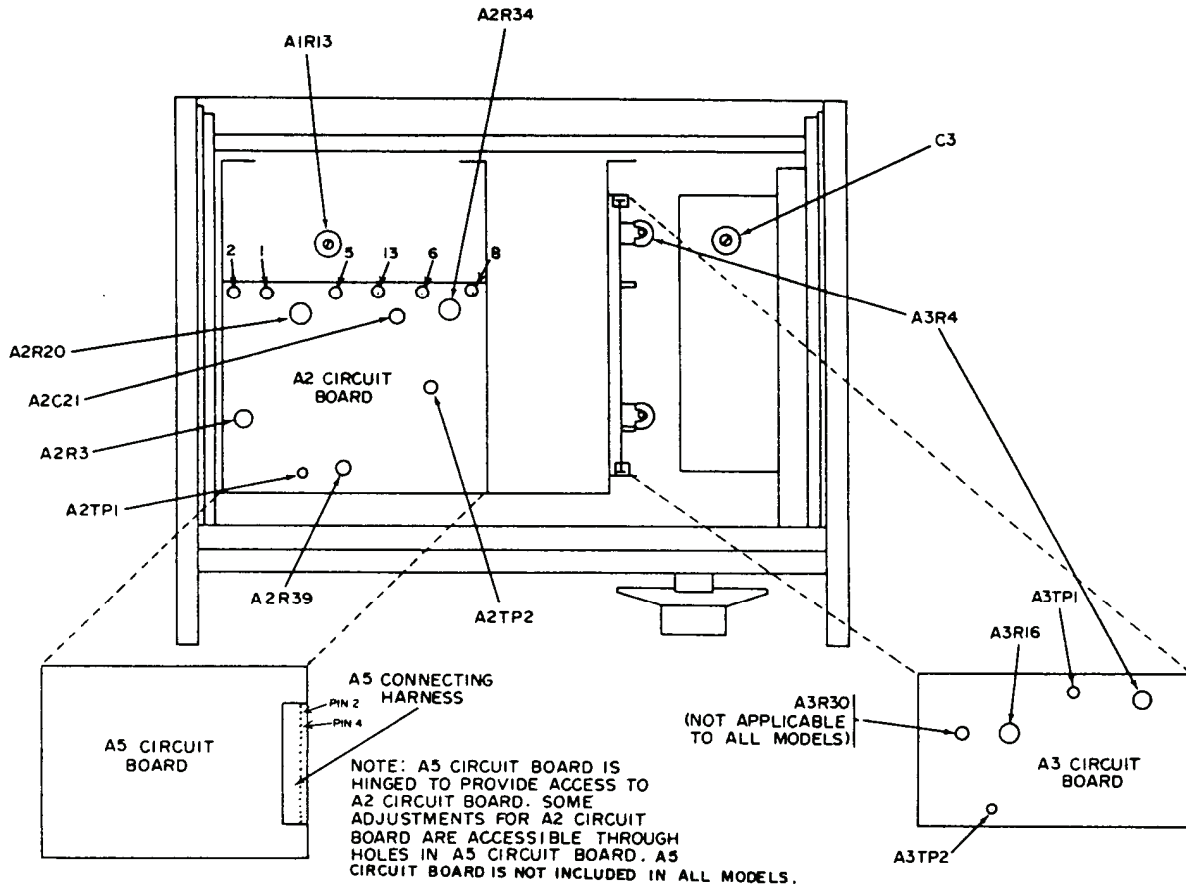
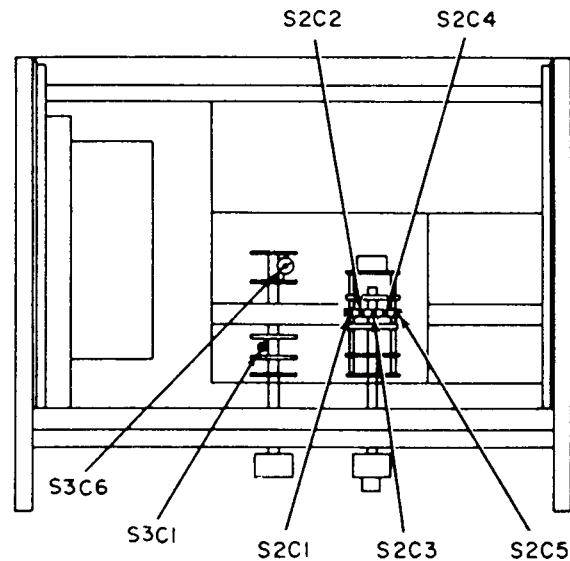

Figure 1. Distortion analyzer - top view.
Figure 2. Distortion analyzer - bottom view.
- (1) Adjust calibrator for a 0.1 V, 400 Hz output.
(2) Adjust A2R34 (fig. 1) for 0.001 V indication on TI voltmeter (R).
(1) Set **METER RANGE** switch to **.01 VOLTS**.
(2) Adjust calibrator frequency to 1 kHz and amplitude for a 0.01 V indication on TI meter. Set the reference level on calibrator by pressing the **NEW REF** key.
(3) Adjust calibrator frequency to 2 MHz and output amplitude for 0.0% error display reading.
(4) Adjust A2R39 (fig. 1) for a 0.01 V indication on TI meter (R).
(5) Adjust calibrator frequency to 3 MHz and output amplitude for 0.0% error display reading.
(6) Adjust A2C21 (fig. 1) for a 0.01 V indication on TI meter (R).
(7) Repeat (3) through (6) above as necessary to correct for any interaction between adjustments.
(8) Set **METER RANGE** switch to **.3 VOLTS**.
(9) Adjust calibrator frequency to 1 kHz and amplitude control for a 0.3 V indication on TI meter. Set the reference level on calibrator by pressing the **NEW REF** key.
(10) Adjust calibrator frequency to 2.5 MHz and amplitude for 0.0% error display reading.
(11) Adjust S3C6 (fig. 2) for a 0.3 V indication on TI meter (R).
(12) Set **METER RANGE** switch to **3 VOLTS**.
(13) Adjust calibrator frequency to 1 kHz and amplitude control for a 3 V indication on TI meter. Set the reference level on calibrator by pressing the **NEW REF** key.
(14) Adjust calibrator frequency to 200 kHz and output amplitude for 0.0% error display reading.
(15) Adjust S3C1 (fig. 2) for a 3 V indication on TI meter (R).